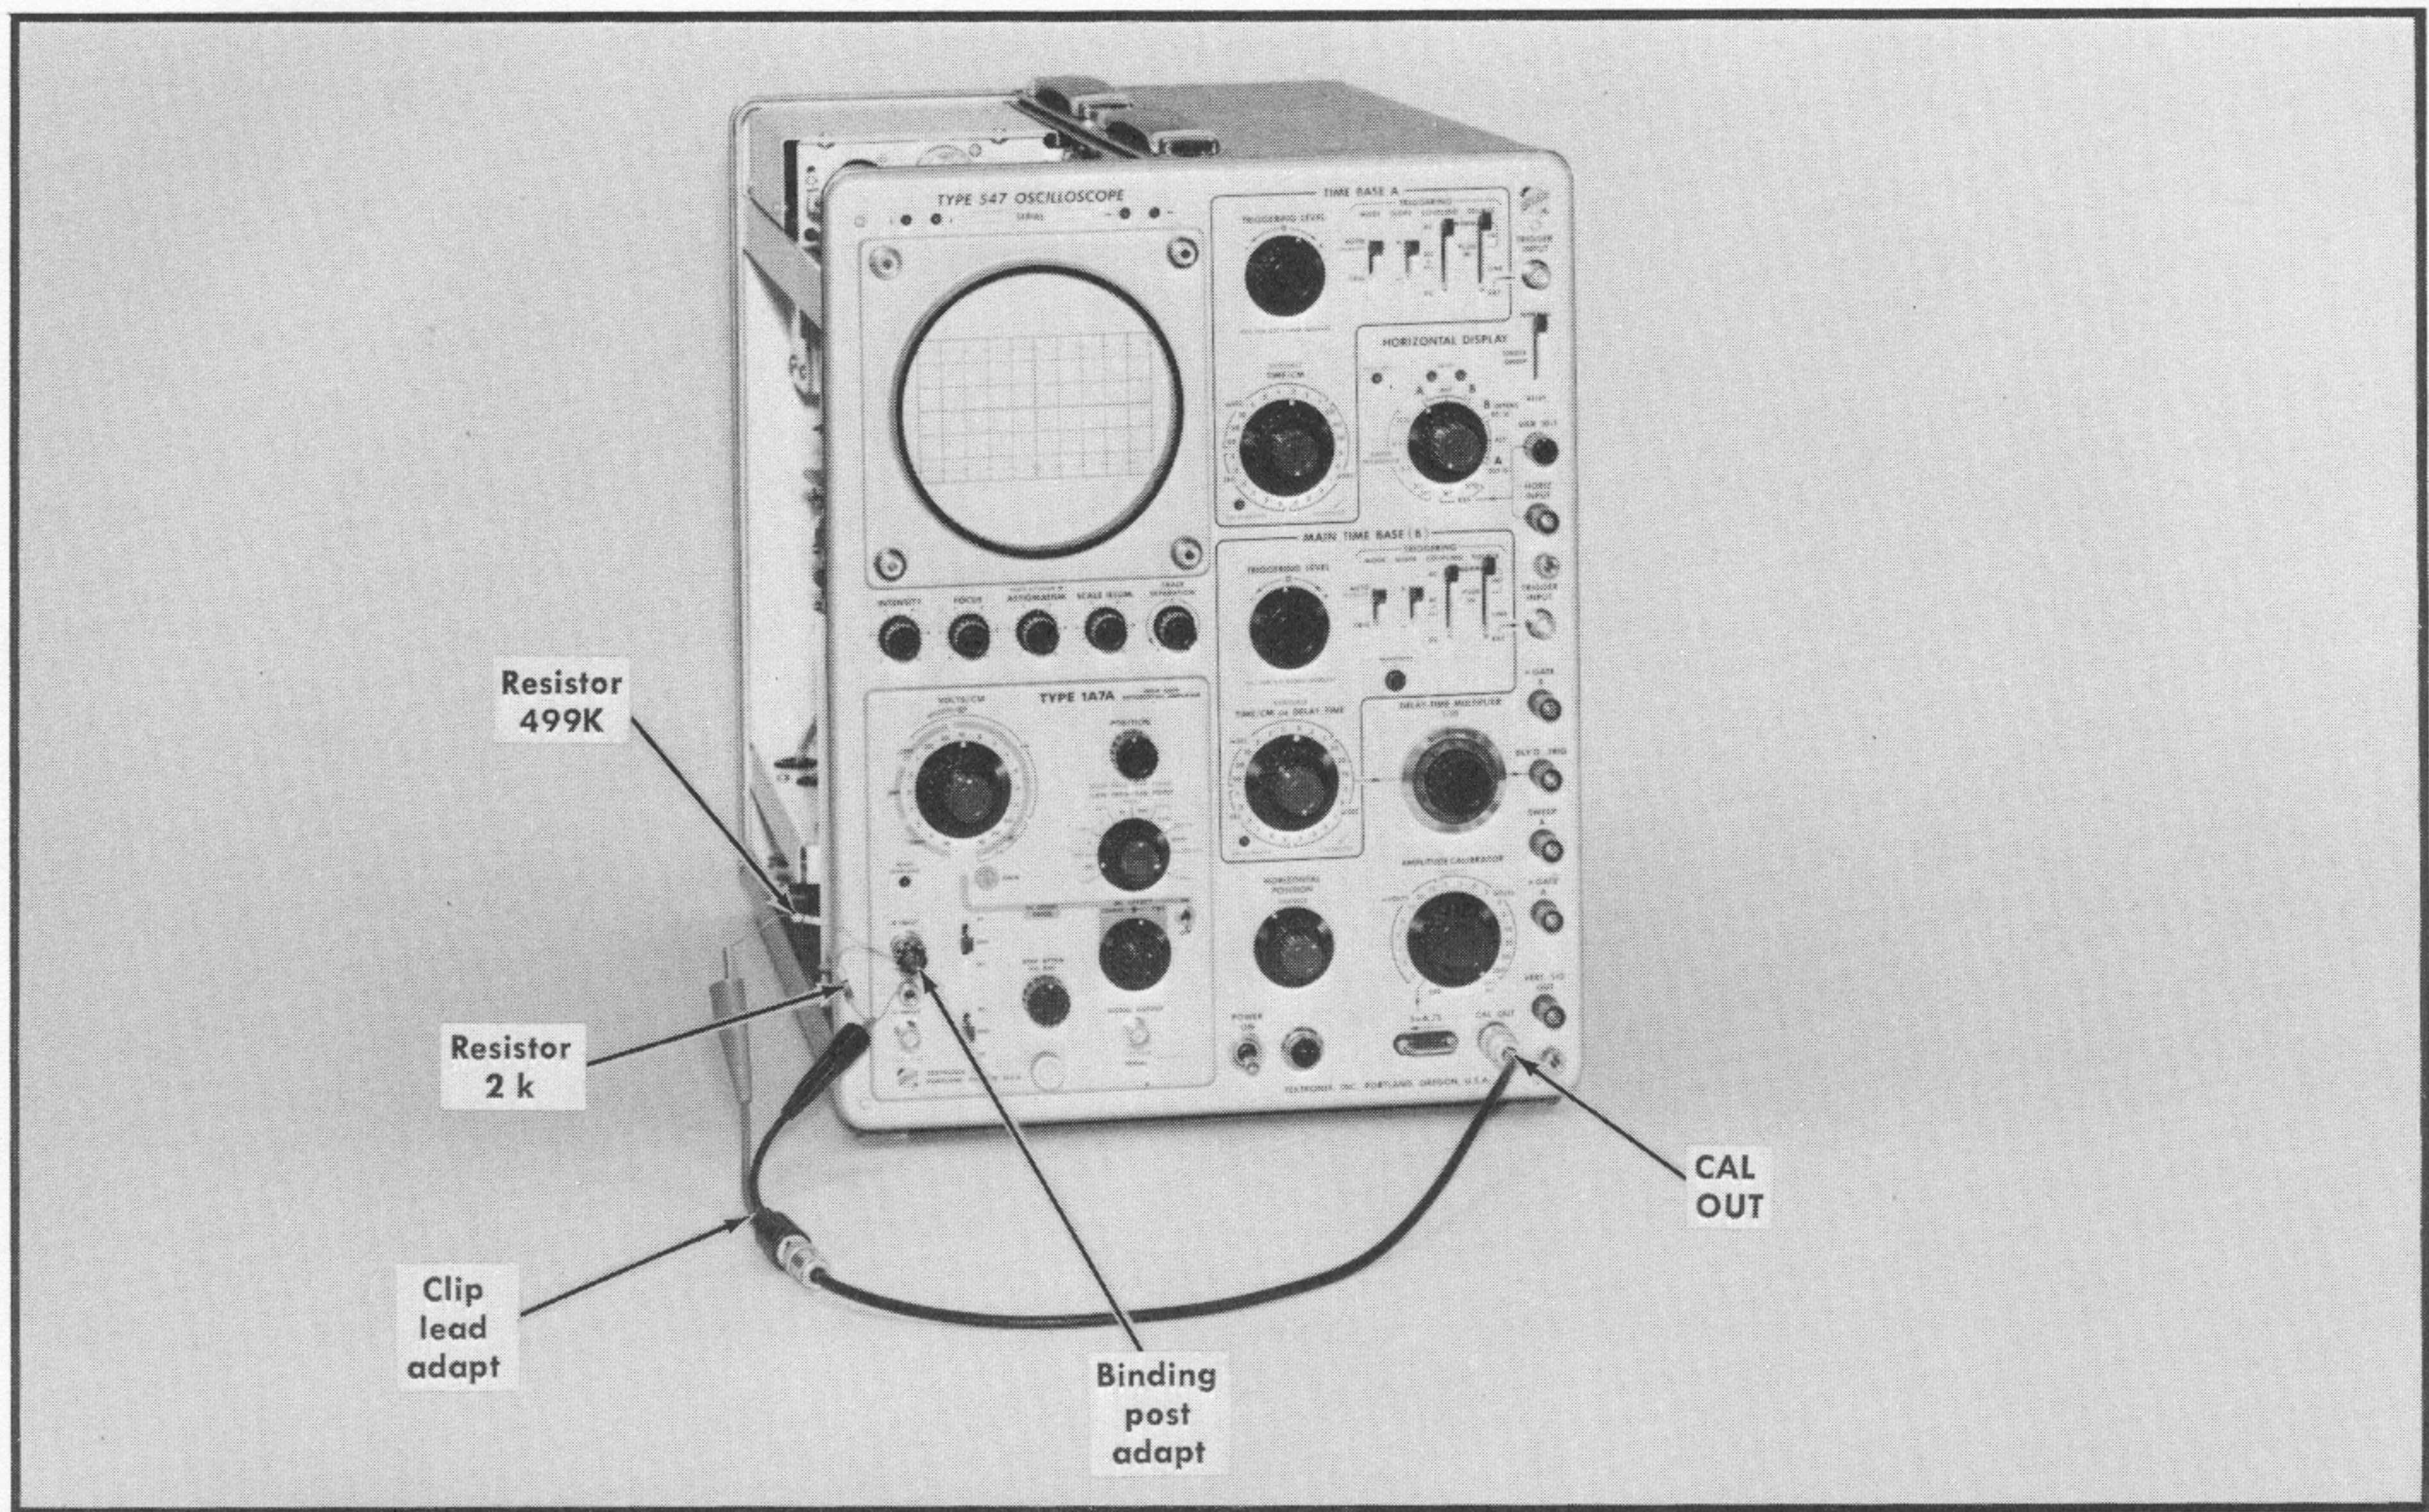
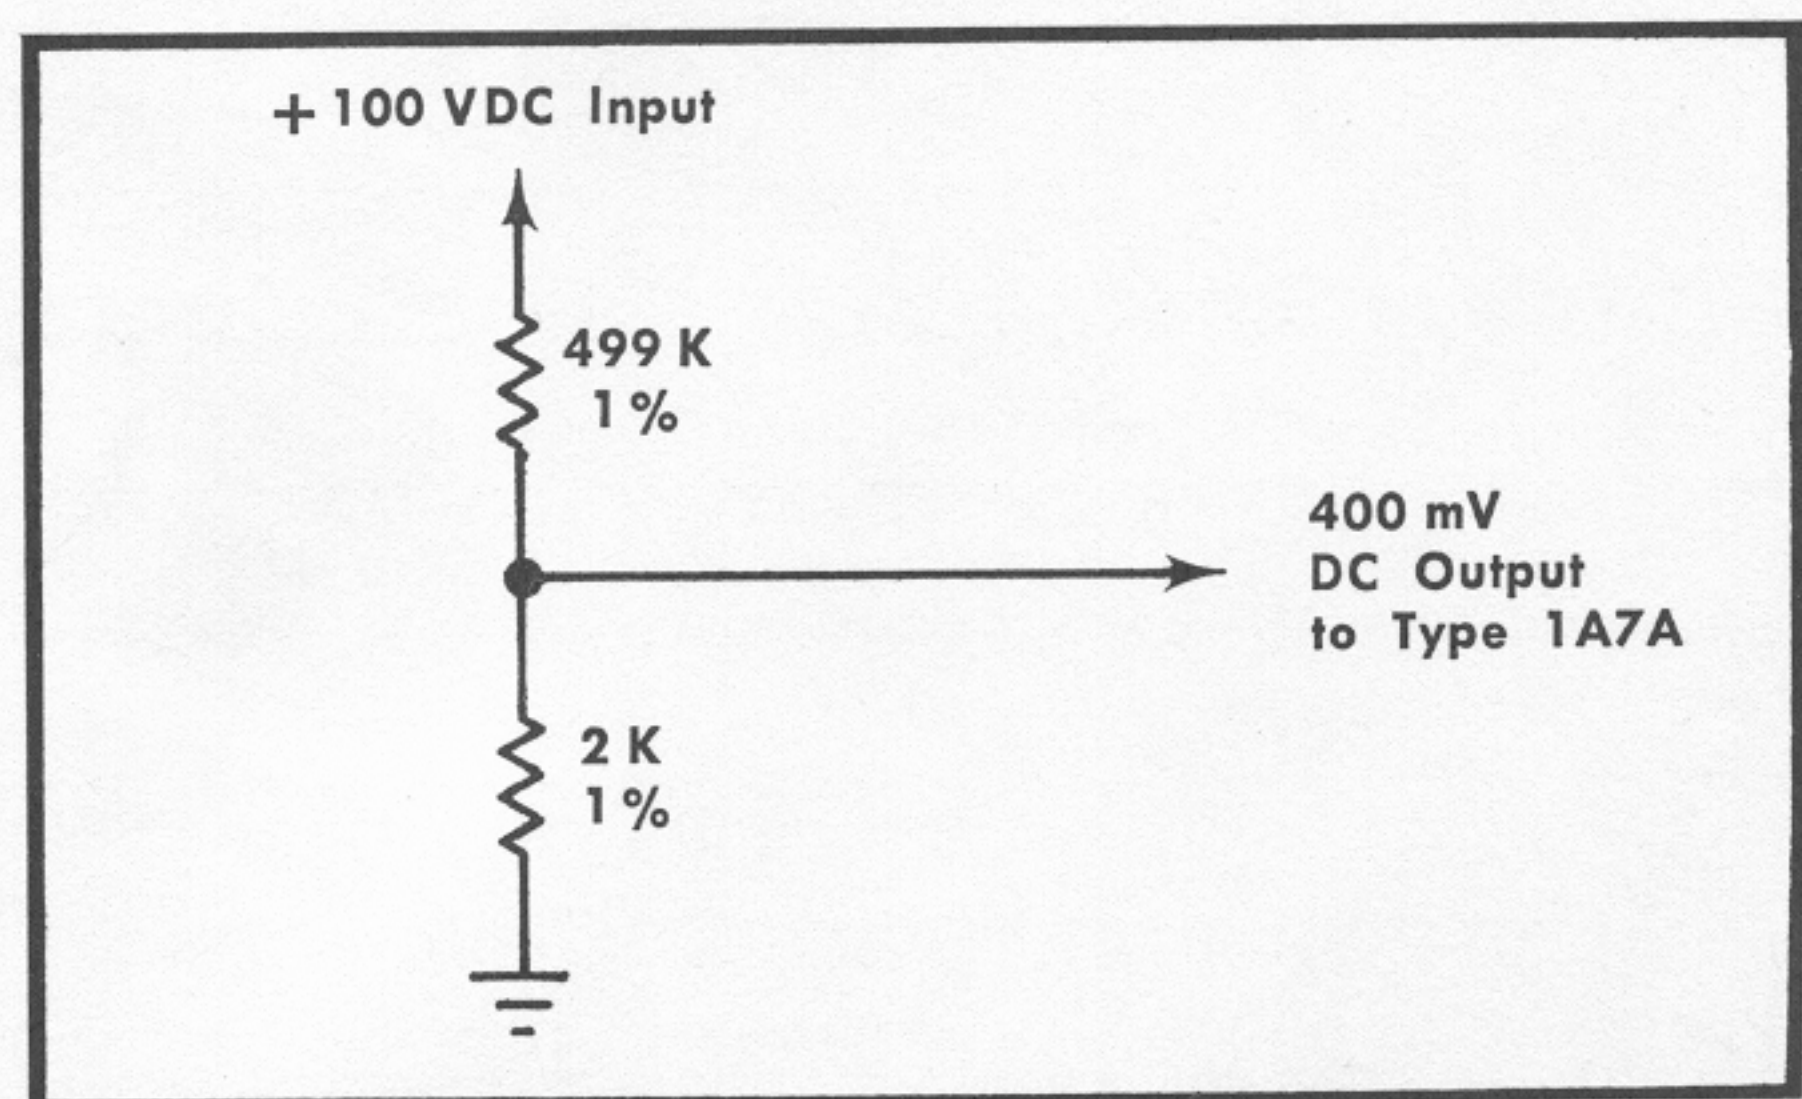

Fig. 5-9. Test equipment setup for step 9.
Fig. 5-10. Schematic of DC Offset Divider.
- Test equipment setup is shown in Fig. 5-9.
- Connect a binding post adapter (item 14) to the + INPUT connector.
- Connect the resistors (items 19 and 20) to the + INPUT connector using Fig. 5-9 and Fig. 5-10 as a guide.
- Apply + 100 VDC from the oscilloscope calibrator to the divider (see Fig. 5-9).